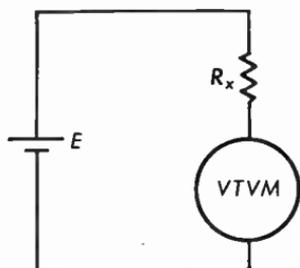

Fig. 12.21 Vacuum-tube voltmeter hook-up for measuring resistance.
12.21 A vacuum-tube voltmeter with an input resistance of 10 megohms is used to measure an unknown resistor by the circuit indicated in Figure 12.21. $E = 6.3$ volts, the voltmeter reading is 1.2 volts. What is the resistance of R_x ?